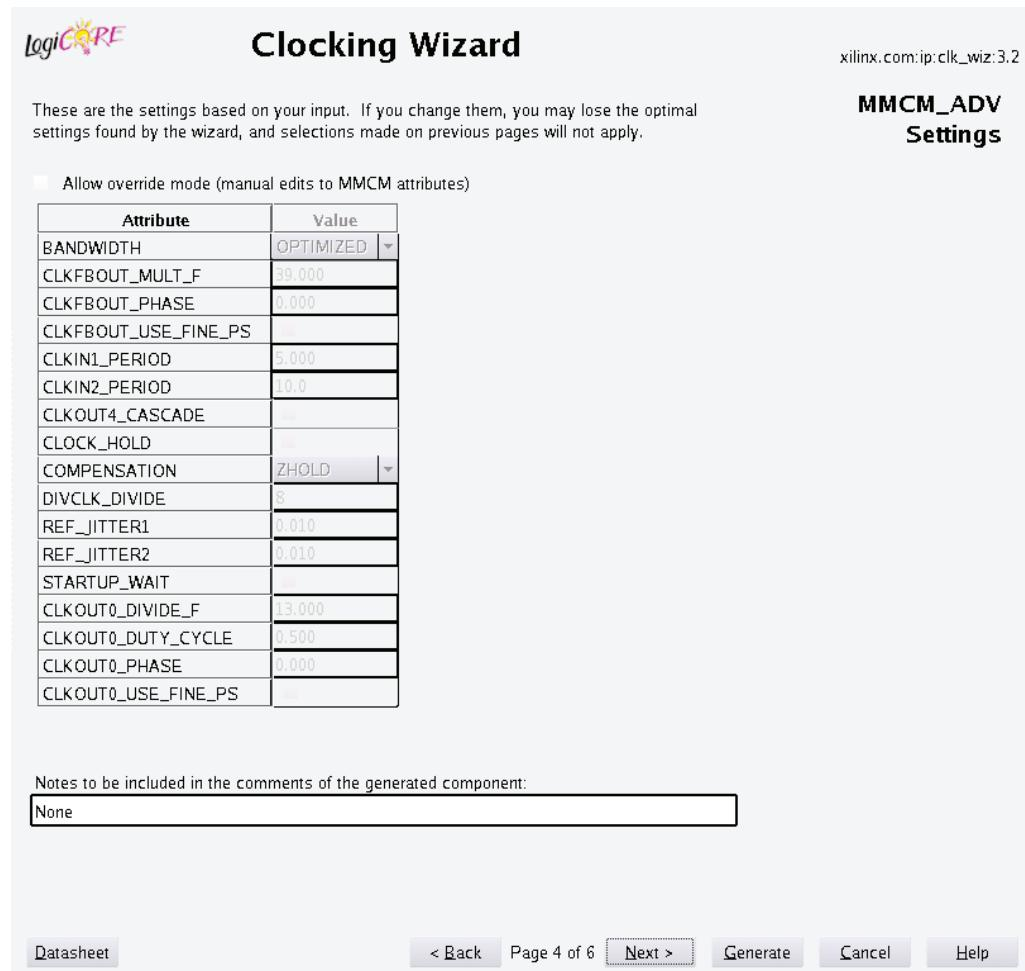

Figure 68: Clocking Wizard MMCM\_ADV Settings
61. Review the MMCM\_ADV Settings page and click **Next** (Figure 68).